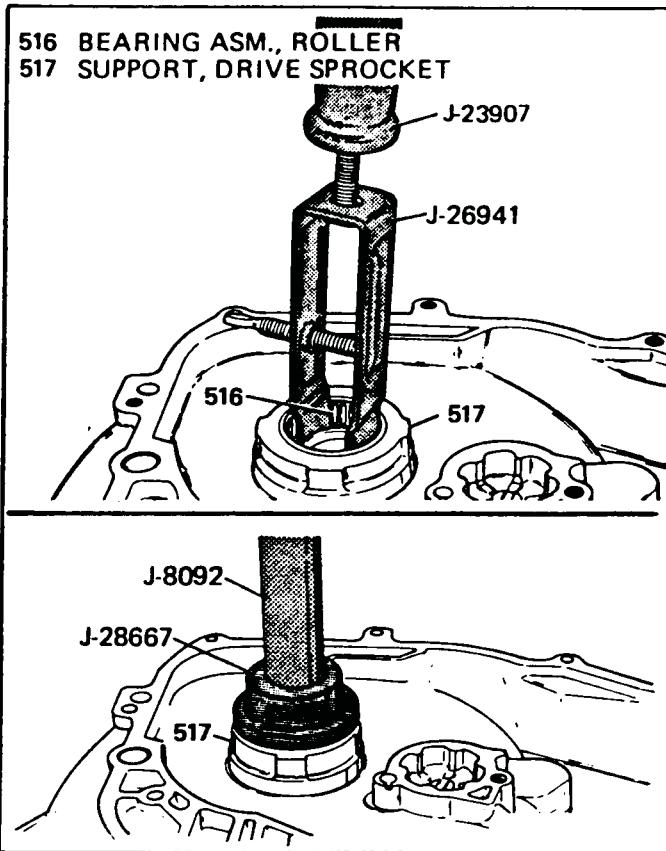

Figure 61
1. Use the bearing puller and installation tools, as shown in Figure 61, to remove and replace the drive sprocket support bearing.